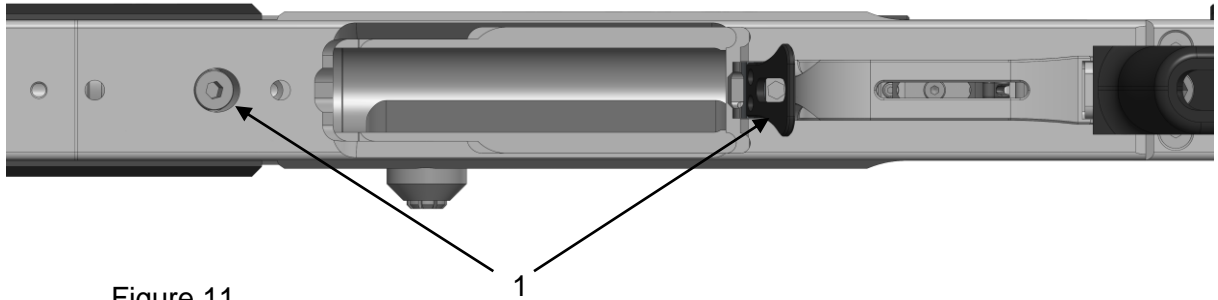

Figure 11
(3) Remove system from support completely
- Unscrew screws "1" alternately in order to avoid damages (Figure 11)